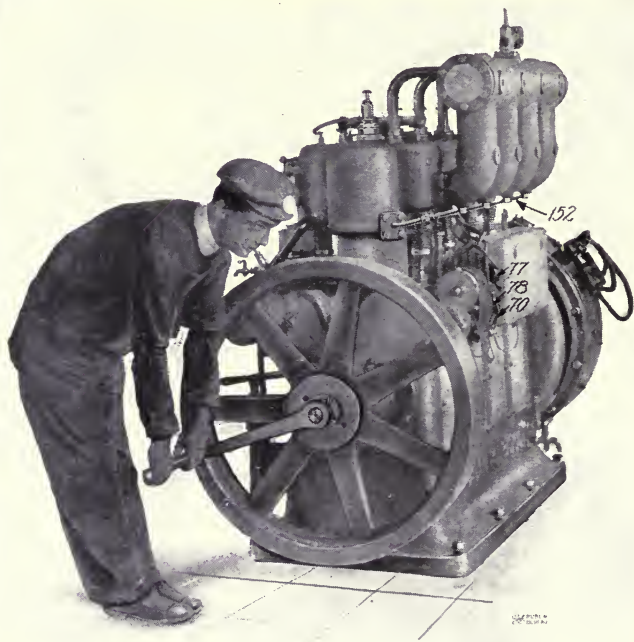

Fig. 7.—Correct method of cranking.
1. Place ignition switch (part 77 *Eisemann* and *G. F. magnetos*, part 1038 *Splitdorf magneto*) in “off” position (see fig. 7; also par. 17).
15. Engage crank as in fig. 7 and **pull up, never push down**. Repeat until engine starts (*see pars. 25c, 28e, 28f, and 29d*).